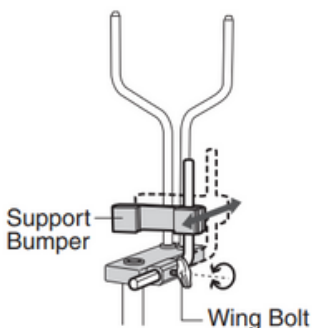

Fig.8
4. Press the Support Bumper against the bottom hoop and tighten the Wing Bolt. (Fig.8)